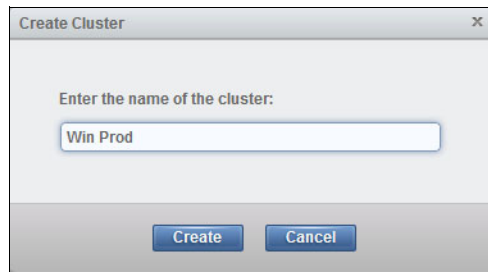

Figure 11-46 Create Cluster window
4. The Create Cluster window opens, as shown in Figure 11-46. Specify the name of the cluster, and click **Create**.